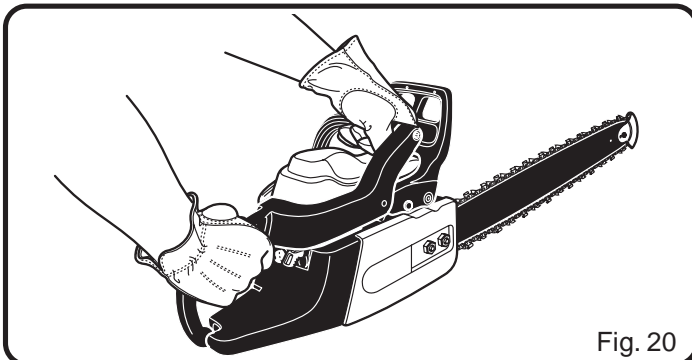

Fig. 20
- Hold the saw firmly with both hands. Always keep your **LEFT HAND** on the front handle and your **RIGHT HAND** on the rear handle, so that your body is to the left of the chain line. See *Figure 20*